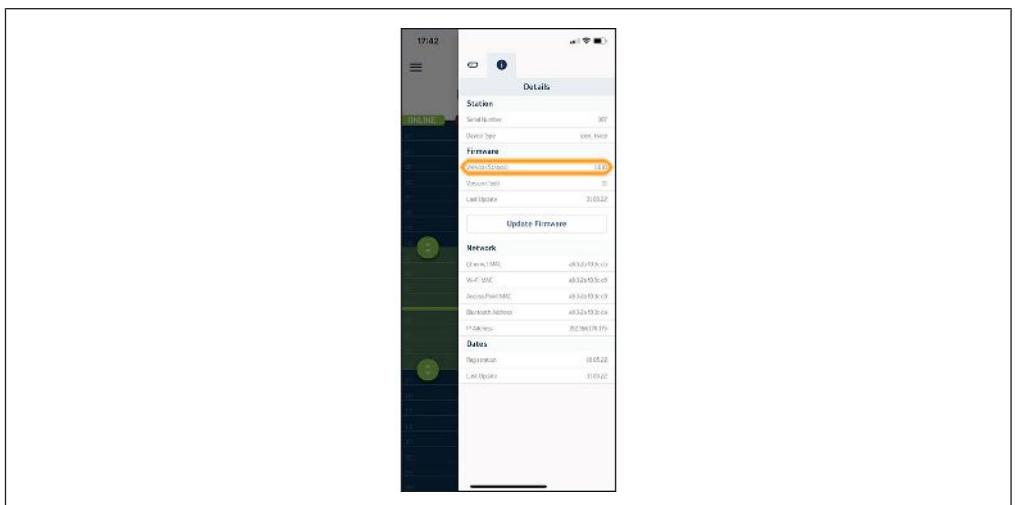

Fig. 16: Version number and update of the soldering station firmware
- a) Figure 16 on the left: Insert the heating element all the way into the soldering tip [1], then turn the soldering iron clockwise as far as it will go [2].
- b) Figure 16 on the right: Turn the soldering iron slightly towards you [3] and pull it out [4].